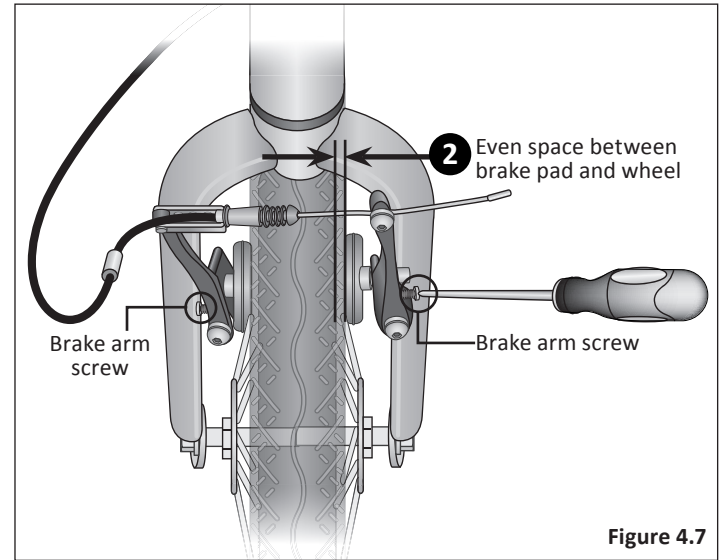

Figure 4.7
- Using a phillips head screwdriver, adjust the brake arm screws on either side of the brake arm. **Note:** Turning the screw **clockwise** moves the pad away from the rim. Turning the screw **counterclockwise** moves the pad towards the rim. **Figure 4.7**